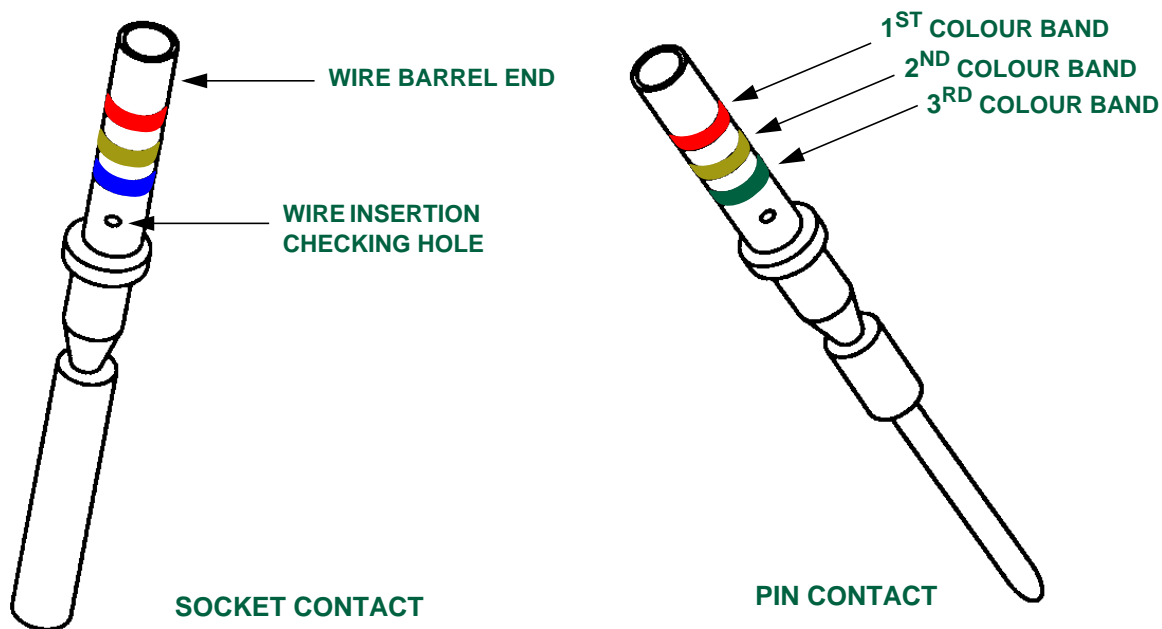

FIGURE 1 - GENERAL DESCRIPTION OF CRIMP TYPE CONTACTS
| FIGURE 1 - GENERAL DESCRIPTION OF CRIMP TYPE CONTACTS | 5 |
- 4.1.1 Crimp style electrical connector pin and socket contacts as specified on the engineering drawing or wiring list. Refer to Figure 1 for a general description of crimp style pin and socket contacts.